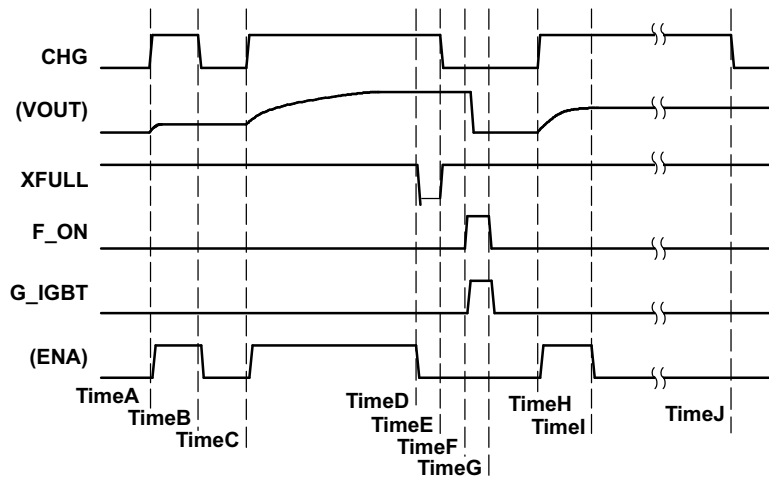

Figure 4. Whole Operation Sequence Chart
The only way to *start* charging is to input $CHG\uparrow$ (see time A/C/H in Figure 4). Each time $CHG\uparrow$ is applied, the TPS65560 starts charging.
1. Forced *stop* by inputting $CHG = L$ from the controller (see timeB in Figure 4).
2. Automatic *stop* by detecting a full charge. VOUT reaches the target value (see TimeD in Figure 4).
3. Protected *stop* by detecting an over current function (OV_{DS}) trigger at SW pin (see TimeI in Figure 4).
The device starts charging at *timeH*, and OV_{DS} protection occurs at *TimeI* (see Figure 4). At *TimeI*, XFULL stays H. At *TimeJ*, the controller detects OV_{DS} protection through the expiration of a timer ends and then sets CHG to low to terminate the operation.
The TPS65560 provides an overvoltage monitor function of the SW pin. The TPS65560 is latched off if the voltage on the SW pin is above OV_{DS} during the switch ON time (see Figure 4 and its descriptions).